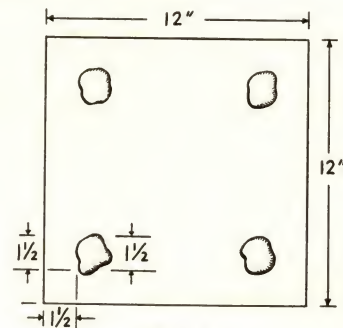

FIG. 3
6e (1). Amount of Adhesive. Apply the adhesive to the 12"x12" tile in spots near each corner using a putty knife or a small trowel. Each spot should be approximately 1 1/2" or 2" in diameter and about 1/2" thick. The outer edges of the spots should be about 1 1/2" in from the edges of the tile as shown in Fig. 3. *Never* spread the adhesive over the entire back of the tile. For 12"x24" tile, use 8 spots of adhesive per tile, one in each corner and the others evenly spaced over the tile. For 24"x24" tile, use 16 spots of adhesive per tile, one in each corner and the others evenly spaced over the tile.